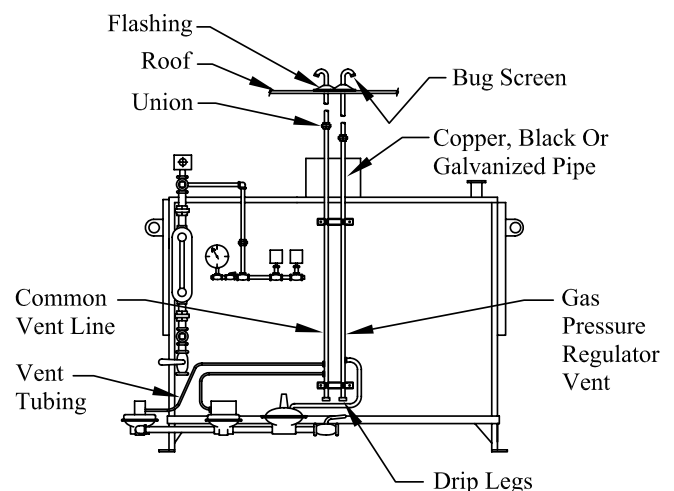

Figure 5
- 5.4 **NOTICE** Always terminate vents away from air intakes or sources of ignition. Be sure that moisture and insects cannot enter the vent pipes. Always utilize a drip leg to keep moisture from traveling back down vent tubing and damaging the diaphragms. See **Figure 5** below: